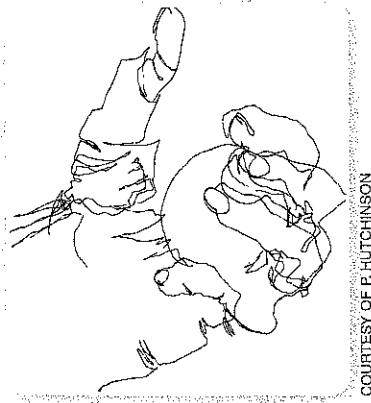

Figure 5-16: Student contour drawing.
Step 5. Take a look. It is very unlikely that you will have produced a well-proportioned portrait of your hand, but you probably have a nicely flowing line around shapes that “feel” like the fingers and object you were drawing (see Figure 5-16).